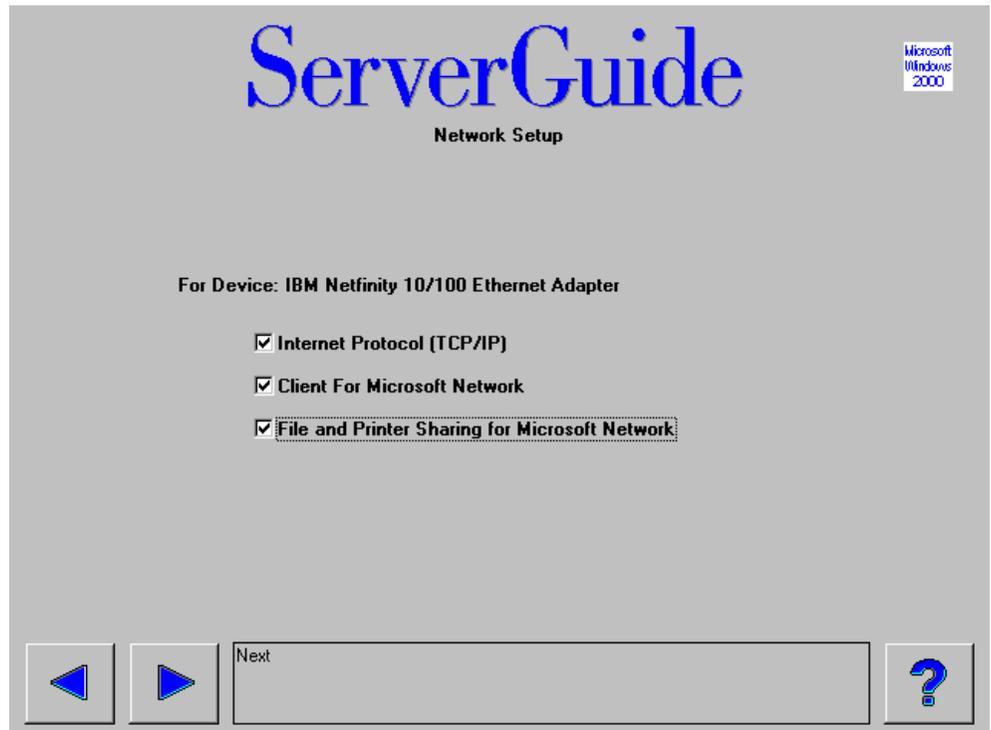

Figure 42. Network Setup
23. If you are using the custom installation method, you will now be asked to configure your network. For all NICs found in the system, you will need to specify whether to use them for Microsoft networking (Figure 42), and if so, you will be able to configure the IP settings. Fill in the information required and click  to continue.